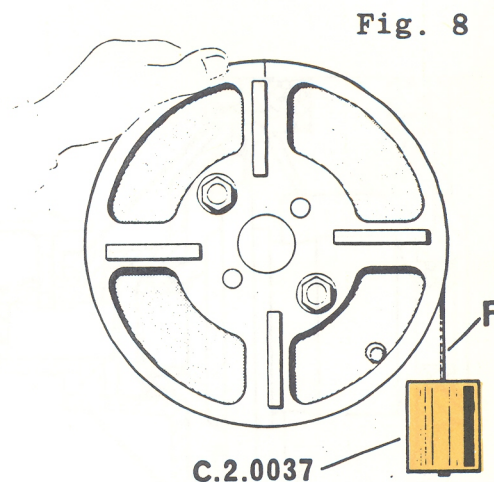

Fig. 8
- 8** Check whether the torque to turn the bearings falls within the limits specified in the Shop Manual. To this end, proceed as shown at the fig. 8 by applying the appropriate weight C.2.0037 to the end of the cable.